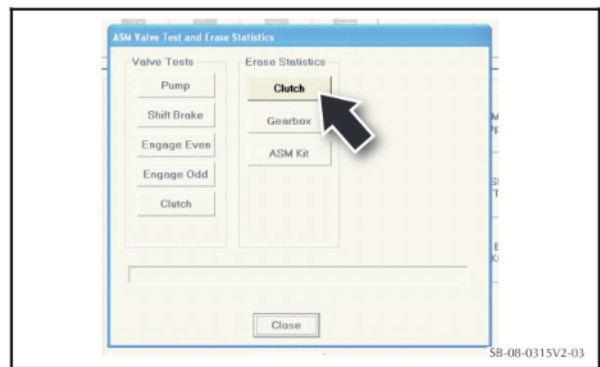

Figure 3
- To clear the stored clutch settings from the module, click on "Clutch" under "Erase Statistics" (refer to Figure 3).